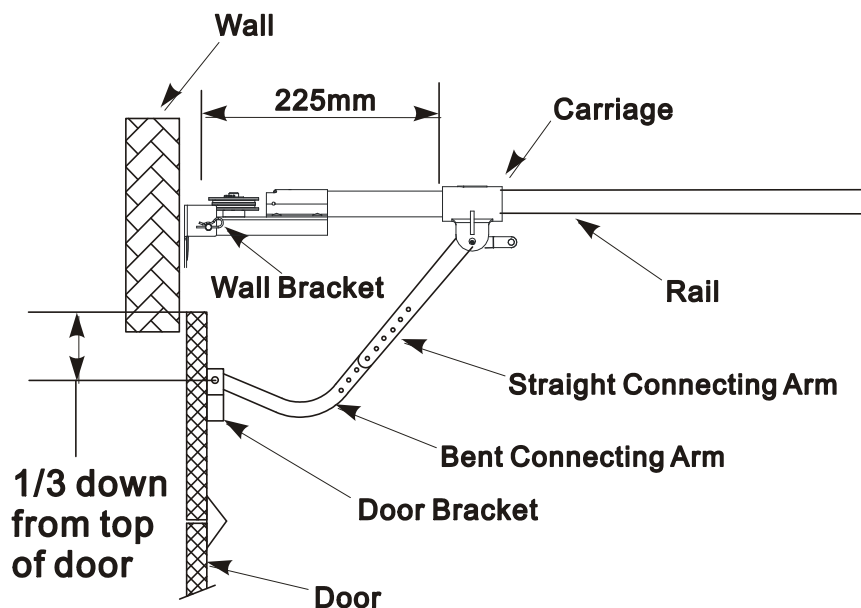
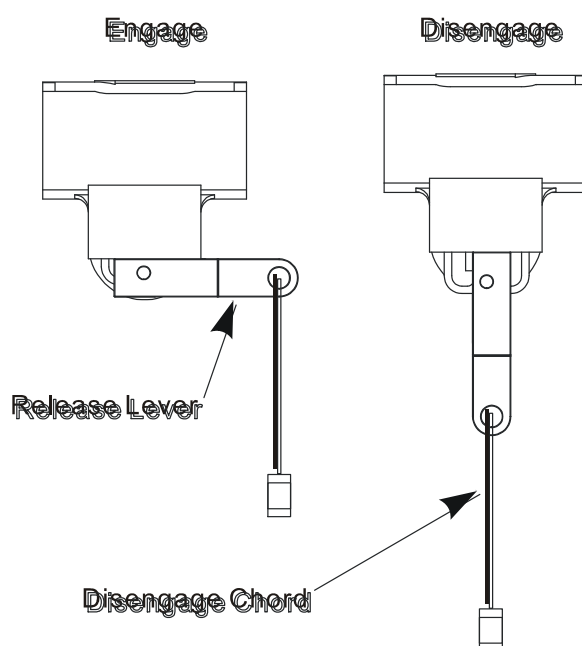

Fig 8
Fig 9
- With the Carriage **disengaged** (Fig.9) and positioned approx 225mm from the front wall, attach the Straight Towing Arm (Fig 8) to the Carriage using the short clevis pin.
- Attach the Bent Towing Arm to the Towing Bracket (use the end of the arm which has only one hole) using the 8mm screw and 2 nuts. (Fig 8)
- Unfurl the Red Disengage Cord and cut to length so that the end hangs approximately 1800mm above the garage floor. (Fig.9)
- Pull down on the Red Coloured Disengage Cord (Fig.9) to disengage the AGDO from the Garage door.
- Pull down on the Green Coloured Engage Cord. (Fig 9)